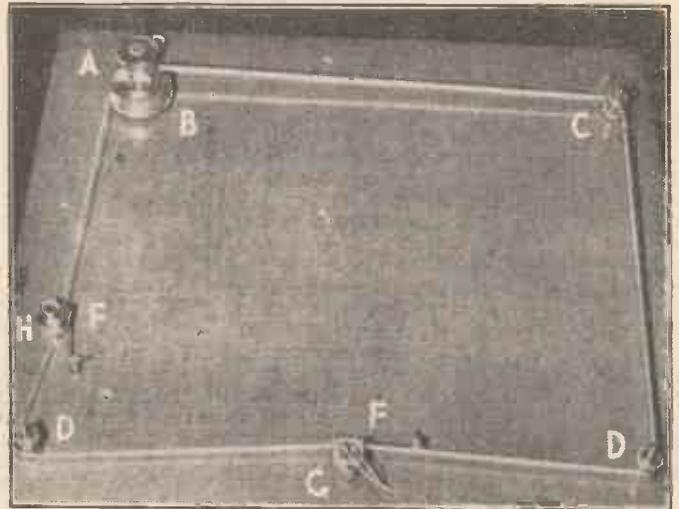
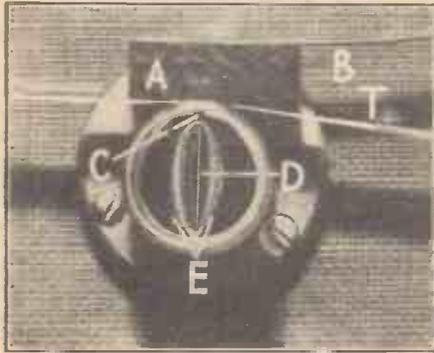

Fig. 1.—General view of the completed recorder.
Fig. 5.—Enlarged detail of the playback head, showing the windings on the mumetal strip.
The simple mechanism shown in Fig. 1 will record short phrases, such as "Sorry, no cigarettes," "Keep moving, please," "Queue along here," and so on; these phrases, once recorded, could be reproduced every few seconds for days, weeks or years, until the wire or tape itself had worn away. On the other hand, any recording made can be immediately removed from the wire or tape by feeding into the head an alternating current, or by setting a small magnet alongside the loop so that, as the recording medium passes by the head, or magnet, the magnetic flux erases any previous recording, thus preparing the loop for recording again. Such a device would be a boon to a person learning public speaking or plays; one could speak a line and hear it played back immediately, thus learning the quality or otherwise of the diction. A few inches along the tape or wire from the recording head G would be placed the playback head H. The erasing head or magnet would then be placed anywhere along the line between HBCD G.
Look again at Fig. 1. You will see a
Fig. 1 (F) shows the recording head, and H in the same figure the playback head; the latter can be placed in any position, either close to or away from the recording head. If you wish to record longer phrases it is suggested that you fit more pulleys, so that the wire or tape can zig-zag up and down the board, instead of just moving around the edge. Once you have the principle mastered, you can even fit up a recorder with spools of tape or wire.
Recording and playback heads are quite easy to make. Referring to Fig. 5, you will notice a brass cup having a flange, which helps to fasten it down to the base-board. A is a piece of old felt hat forming a pad, B is a piece of spring (an old gramophone governor spring is suitable). The felt pad lightly presses the tape T on to the gap C in the head. The winding on a strip of mumetal is shown at E,
the two ends of the winding meet at C and pass through the wall of the brass cup so that the tape T can be made to slide across the ends of this mumetal strip. A thin flake of mica D separates the two ends of the strip; this mica also passes through the wall of the cup, but its purpose is to keep the two ends of the mumetal strip no more than a thousandth of an inch apart and thus form the magnetic "gap." What looks like sacking in Fig. 5 is the magnified grain of the bakelite board seen in Fig. 1,
and the head shown in Fig. 5 is a magnified reproduction of that in Fig. 1. If you have nothing in your junk box similar to the brass cup shown, cut off a piece of brass tubing about 1/2 in. diameter and 1/2 in. long. Slit this down one side and, with a well-cleaned and tinned hot soldering iron, thinly tin the inside and outside of the tube near the cut and also the two edges of the cut; this tinning should be as thin and smooth as the surface of a tinfoil can, so while the tube is still hot and the solder "wet" wipe it off with a piece of rag to avoid any ridges or blisters of solder. Next, take a piece of mumetal 1/4 in. wide and roughly 1 1/2 in. long—this metal is very expensive, costing about 3s. per square inch, so to avoid spoiling it practise first with a piece of tinfoil. Mumetal, by the way, is the very opposite to a magnet; it will not retain magnetism.
Having cut your piece of metal to the right size, clean the edges with a fine file to remove all burrs, then thinly tin the ends for about 1/4 in. on both sides, once again making sure to wipe off all surplus solder while it is "wet." With a pair of square-jawed pliers give a slight set to the ends so that if the strip is held upright and regarded on edge with the sets to the left, the top set will point at 11 o'clock and the bottom set at 7 o'clock. Now wrap the strip with two layers of selotape and wind on about 120 turns of 32-gauge wire; try to leave a space in the middle of the strip to allow for bending round into a circle, winding the wire evenly on both sides of the space—in Fig. 5 E indicates the two half-windings. Having wound the strip, bend it to lemon shape (Fig. 6) and place it within the brass tube so that the two ends which have been set at a slight angle poke through the slit in the tube, as in Fig. 6. The slit in the tube should push the two ends of mumetal together so that there is no gap discernible between them. You can then push between the two ends a very thin flake of mica, making a gap of about one-thousandth of an inch between the two ends. When you are satisfied that all is ship-shape, apply a hot, tinned